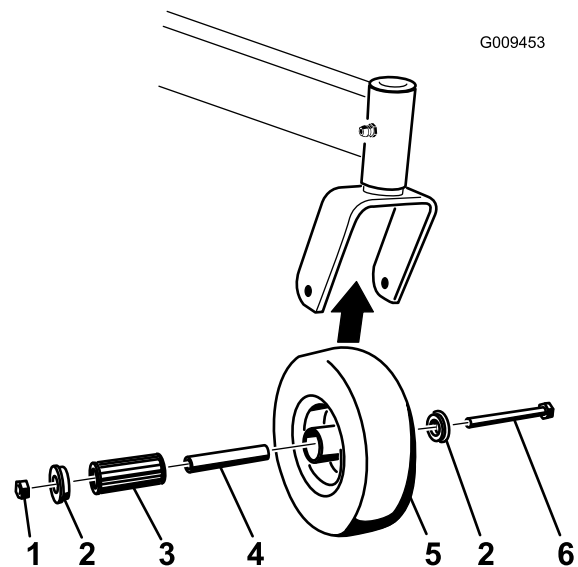

Figure 60
1. Remove the locknut and wheel bolt holding the caster wheel to the caster fork (Figure 60).
2. Remove one bushing, then pull the spanner bushing and roller bearing out of the wheel hub (Figure 60).
3. Remove the other bushing from the wheel hub and clean any grease and dirt from the wheel hub (Figure 60).
4. Inspect the roller bearing, bushings, spanner bushing and inside of the wheel hub for wear. Replace any defective or worn parts (Figure 60).
5. To assemble, place one bushing into the wheel hub. Grease the roller bearing and spanner bushing and slide them into the wheel hub. Place the second bushing into the wheel hub (Figure 60).
6. Install the caster wheel into the caster fork and secure with the wheel bolt and locknut. Tighten the locknut until the spanner bushing bottoms against the inside of the caster forks (Figure 60).